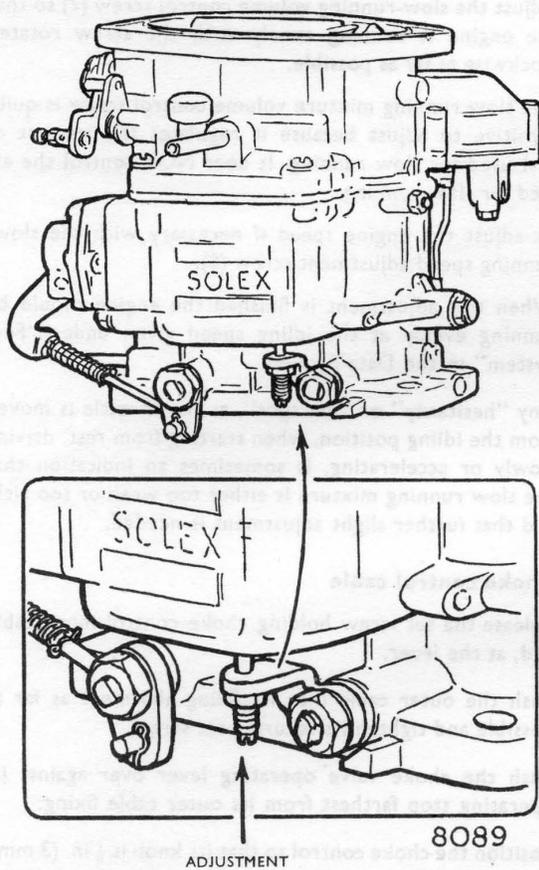

Fig. 12. Secondary throttle closed position stop
2. Release the spring-loaded ball joint to disconnect the shaft (54) from the secondary throttle ball joint on the secondary throttle spindle lever (46).
3. Hold the primary throttle (44) in its fully open position by inserting a short length of  $\frac{1}{8}$  in. (12 mm.) diameter bar between the open primary throttle and its throttle bore.
4. Adjust the secondary throttle stop shown in Fig. 12 so that secondary throttle has .002 in. (.05 mm.) clearance between the throttle plate (45) and its throttle bore, at EACH SIDE of its diameter at right angles to the throttle spindle.